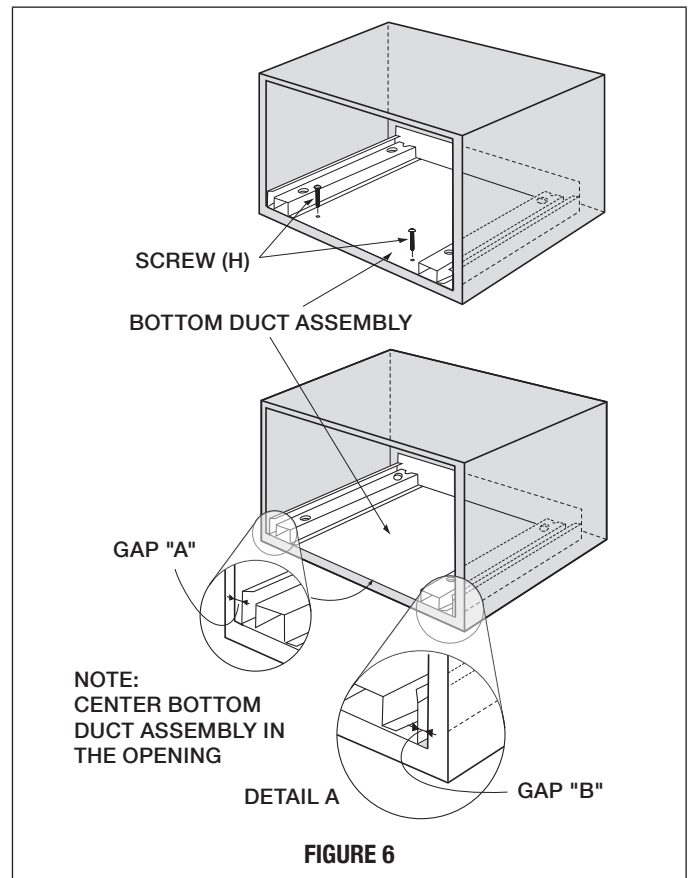

FIGURE 6
A. BOTTOM DUCT ASSEMBLY: Place the Bottom duct in the center of the opening so that gap "A" is equal to gap "B". When the BOTTOM DUCT ASSEMBLY is positioned properly, the front edge of the duct will be flush with the front of the cabinet. Secure with 2 SCREWS (H) See Figure 6.
D. Position DUCT (A)-3 on top of the oven and insert it into DUCT (A)-2. Secure DUCT (A)-3 using 3 SCREWS (I) provided. See Figure 6.